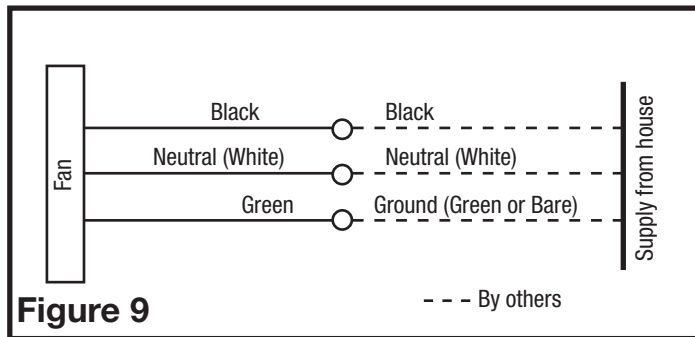

Figure 9
3. For two speed fans wired for continuous ventilation, connect the White wire of the fan to the White (Neutral) wire from the power source. Connect the ground wire from the house to the green wire from the fan housing. Connect the Black wire of the fan to the Black wire (Hot) from the power source. The fan will operate on low speed continuously and boost to high speed when motion is detected. Using a properly grounded standard duplex toggle switch (such as Leviton 5224-2W, not included) connect the black wire from the supply to one side of the top and bottom switch. A manual override switch (not included) can be used to provide a manual fan Off function (**Figure 9**).